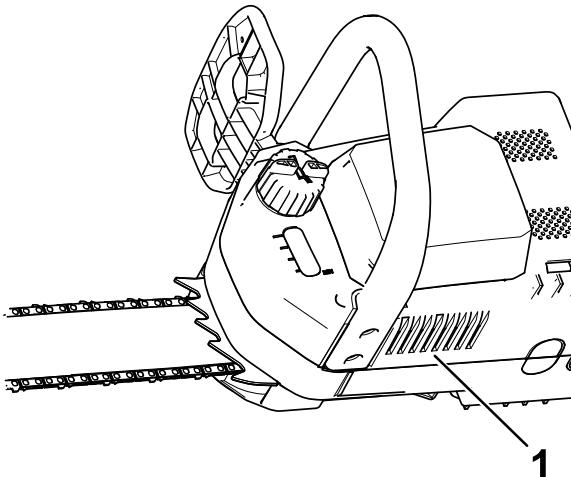
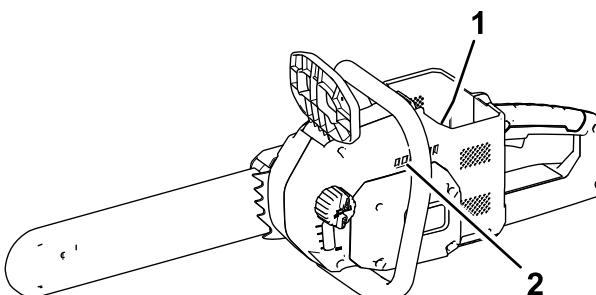

Figure 6
Figure 7
1. Make sure that the vents on the chain saw (Figure 6 and Figure 7) are free from dust and debris.